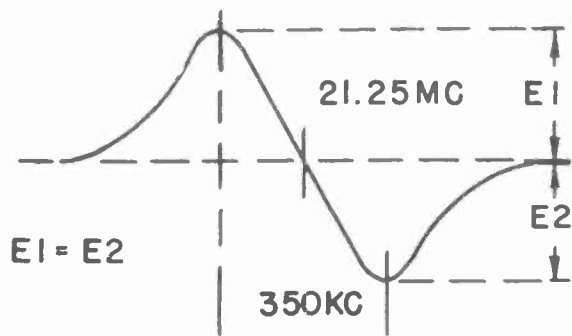

Figure 1
8. Connect oscilloscope to pin 5 of V3 through 33,000 ohm isolating resistor. If pattern is not symmetrical, adjust primary of T102 (top). See Fig. 1.